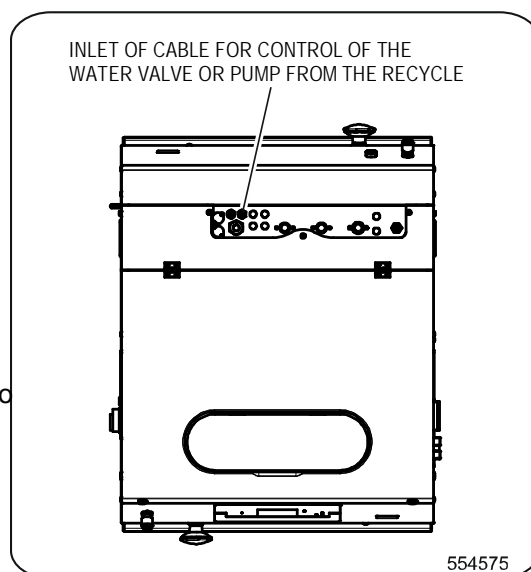

Figure 16
- Fit a cable bushing into the opening (see Figure 16) and pull the cable through the bushing.